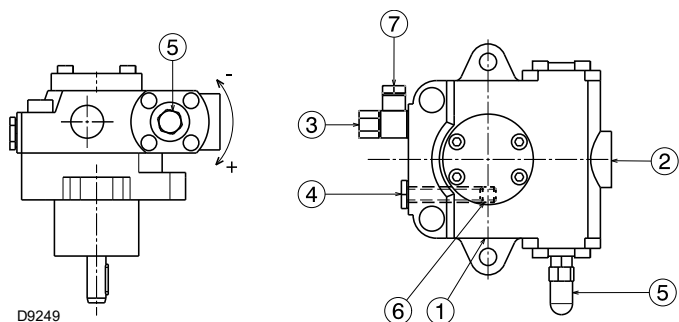

Fig. 24
They are installed on the burner with the by-pass closed by screw 6)(Fig. 24).
- In order for the pump (Fig. 24) to self-prime, it is vital that the screw 4) of the pump be loosened to vent the air contained in the suction line.
Key (Fig. 24)
The a.m. operation is possible because the pump is already full of fuel when it leaves the factory. If the pump has been drained, fill it with fuel through the opening on the vacuumeter 4)(Fig. 24) prior to starting; otherwise, the pump will seize.